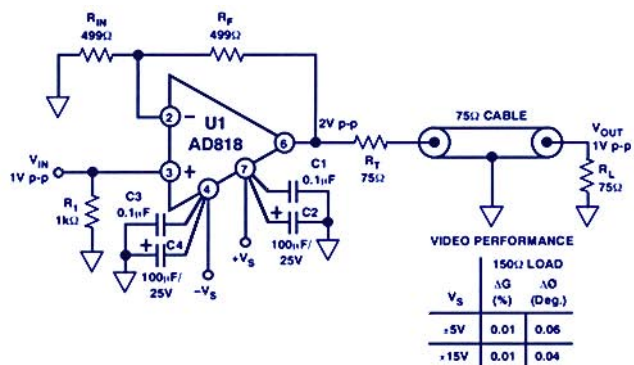
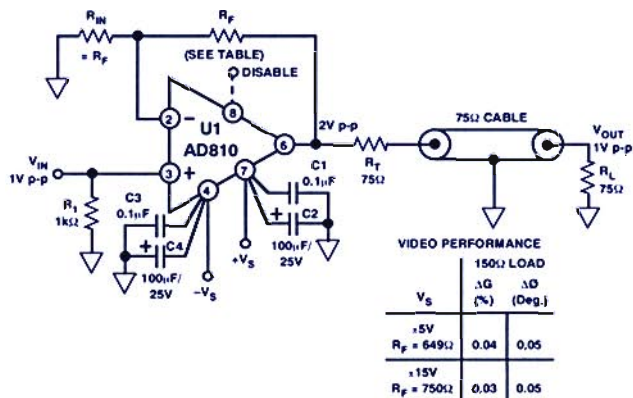
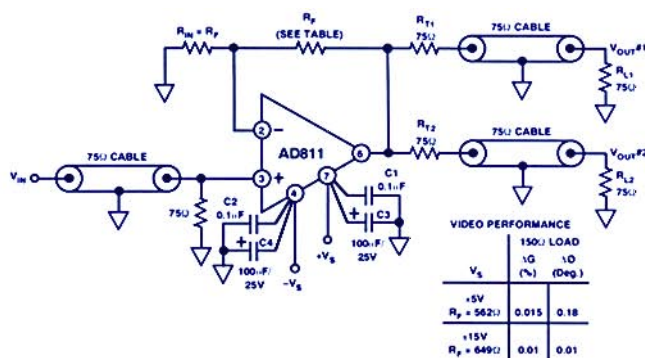

Figure 13. Basic (good) video line driver.
Figure 14. High-performance (better) line driver.
Figure 15. Higher-performance (even better) line driver/distribution amplifier.
The basic video line driver of Figure 13 uses the AD818, a low-cost amplifier noted earlier; it is capable of performing very well. The U1 stage gain is set at 2× by equal R_F and R_{IN} ; their resistance is low to minimize the feedback time-constant. The AD818 is compensated for stable operation at $G = 2$, with maxi-
Figure 14 shows a higher-performance video line driver using the AD810 transimpedance amplifier. This circuit is also relatively inexpensive, but it can perform better than Figure 13 because of the AD810's appreciably higher SR and gain-bandwidth, plus its higher output current. It also has an optional DISABLE function; the stage can be shut down by control logic.
The AD810 has a -3-dB bandwidth of 65 MHz here, and a ripple-free 0.1-dB bandwidth of 20 MHz, both better than for Figure 14. The DISABLE pin (8) is active-low to shut the device down to a standby current drain of 2 mA, with 60-dB input-output isolation at 10 MHz. This permits on/off logic control of a single IC—or multiplexing the outputs of a number of devices.
Figure 15 illustrates a very high performance video line driver. This circuit uses the AD811§ as a gain-of-2 video buffer or line driver. It differs from the driver circuits of Figures 13 and 14 in that it optionally doubles as a distribution amplifier, driving two output lines. Operating at a gain of 2, the AD811 drives a pair of 75- Ω output lines through 75- Ω terminations. V_{OUT1} and V_{OUT2} are individually isolated/buffered replicas of V_{IN} .